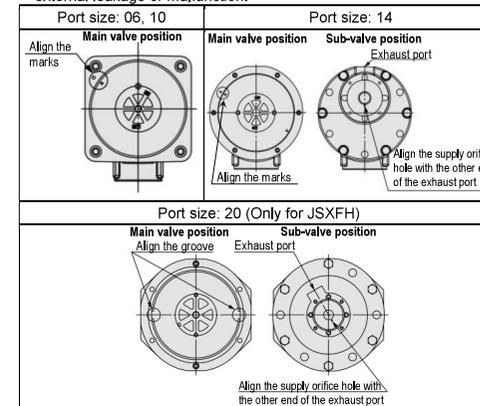

Figure 19.
- Assemble the main valve (sub-valve) to the body, with reference to mounting orientation shown in Figure 19. Incorrect assembly can lead to product malfunction.